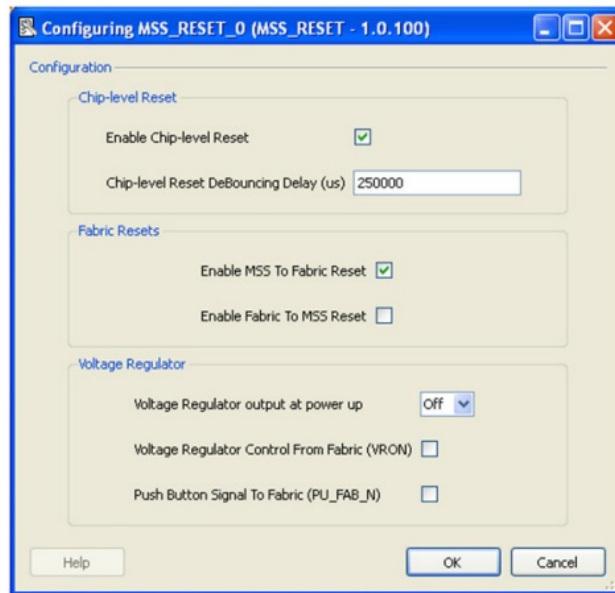

Figure 1-1 · MSS Reset Management Configuration
- Enabling chip-level reset (MSS_RESET_N): MSS_RESET_N can be used as an external reset and can also be used as a system level reset under control of the ARM® Cortex™-M3. You can enable the MSS_RESET_N signal in this configurator. The MSS_RESET_N signal is then available to be used in the design. The PADRESETENABLE bit in the SOFT_RST_CR register will automatically be set by the Actel System Boot. Note that, in the current software, the MSS_RESET_N is modeled as an external input signal only (Figure 1-1).